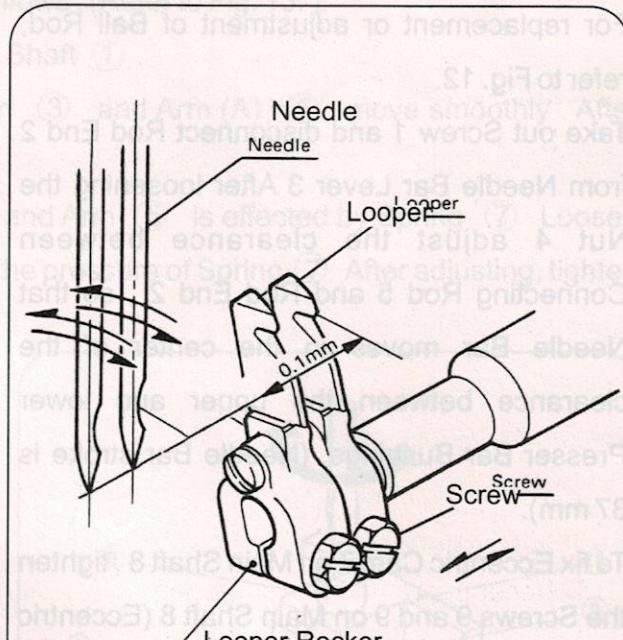

Fig. 10
2. Position of Needle and Looper (Fig.10)
Looper must pass the concave part of Needle with clearance of 0.1 mm as shown in Fig.10. Adjustment of the clearance can be done after loosening the screw of Looper Rocker.